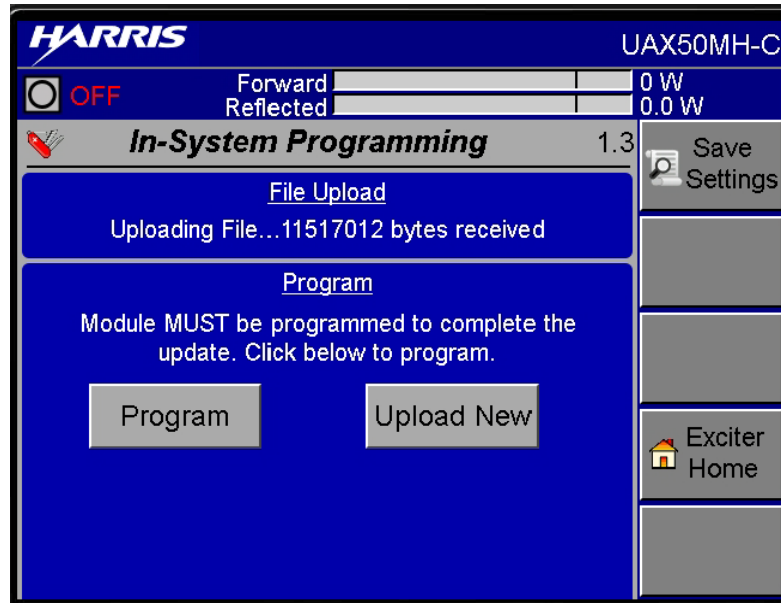

Figure 5-16 In-System Programming Window
- STEP 9** There will be a delay of a minute or two and the screen, shown in Figure 5-16, will appear. When it appears, select Program.